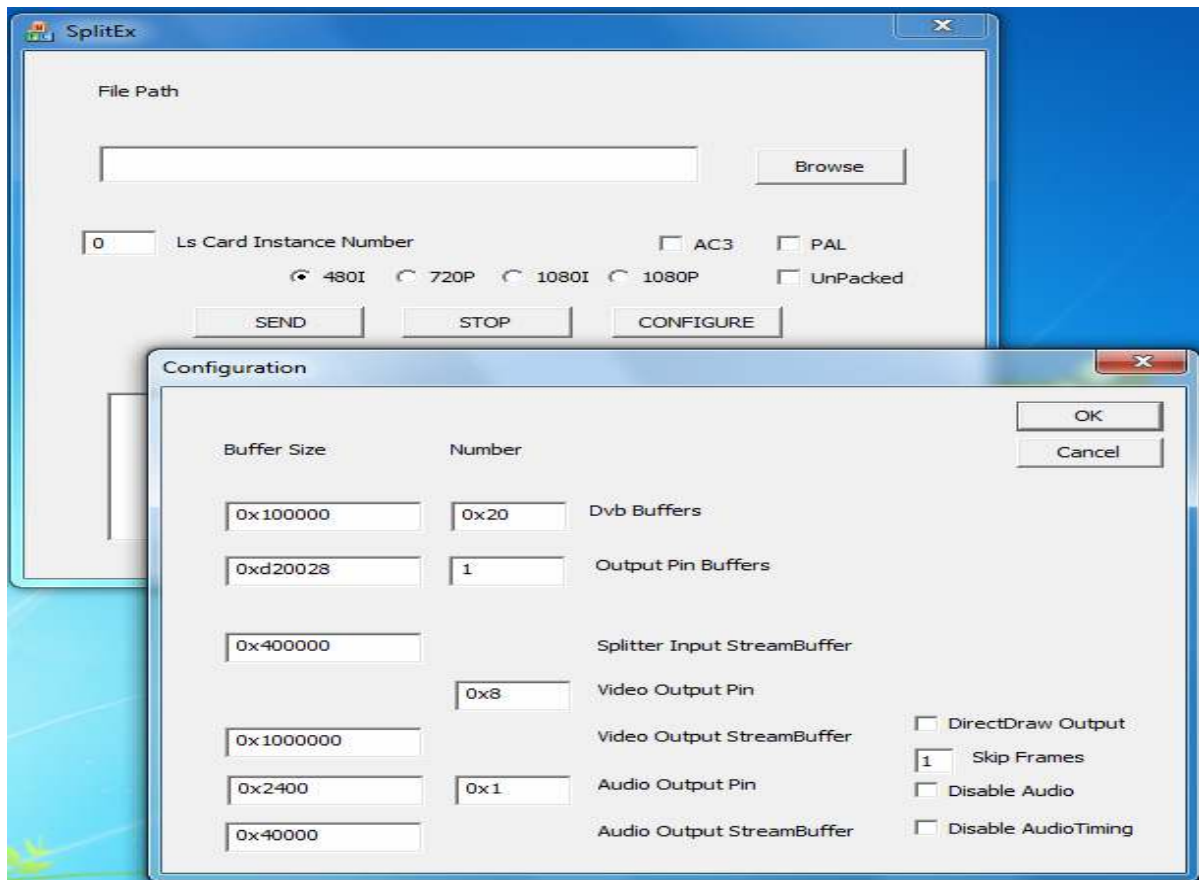

Figure 4.6 SplitEx and Configuration Window
- Use the Configuration window to adjust the audio or buffer settings (Click on the CONFIGURE button to activate it and ok to close this window). As mentioned previously you will notice default values already entered in buffer fields, you can alter it as per your application requirement (if any). **Do not change the settings if just testing the Example application.** Ensure that the settings is same as shown in the Configuration window of *Fig 4.6*